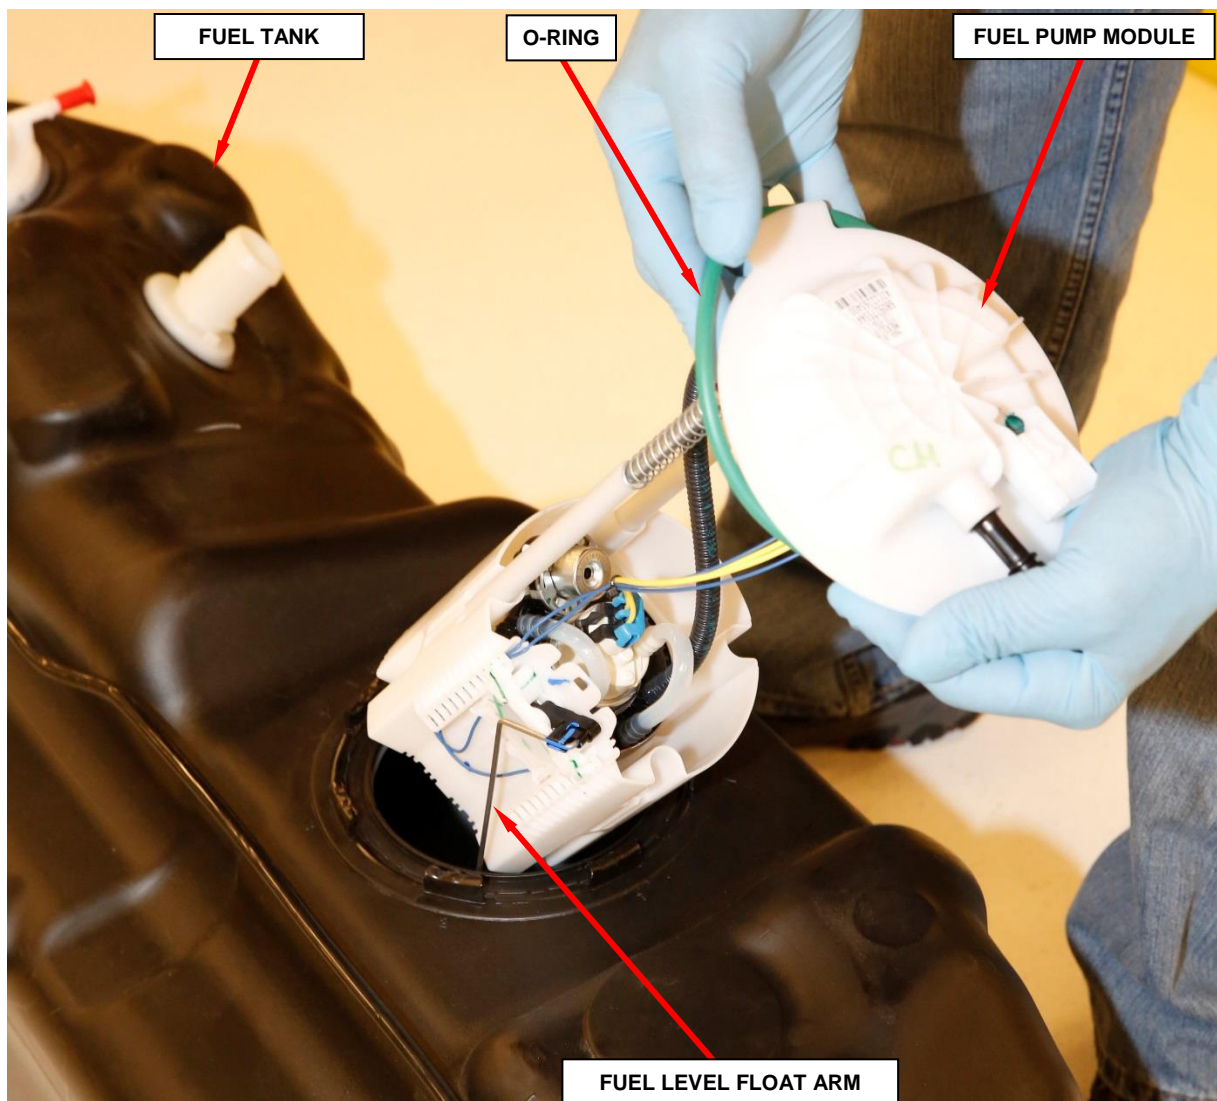

Figure 20 – Fuel Pump Module
49. Remove the fuel pump module from the fuel tank. Be careful not to bend the fuel level float arm during removal (Figure 20).
50. Remove and discard the rubber O-ring seal (Figure 20).